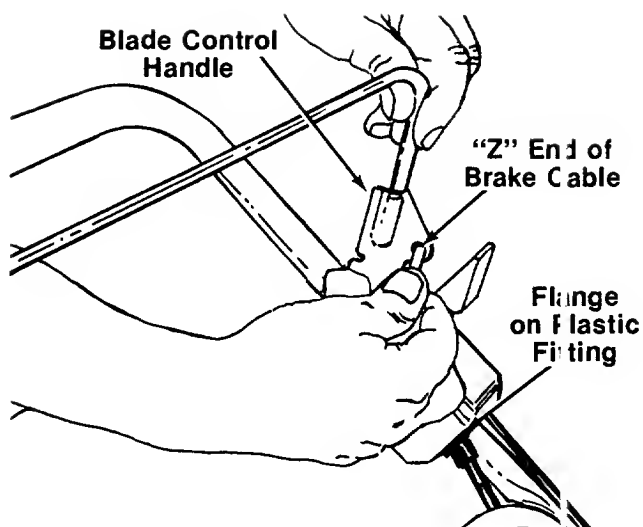

FIGURE 7.
10. Hook the "Z" end of the brake cable into the hole in the blade control handle. See figure 7. If additional slack is needed in order to hook the cable into the handle, proceed as follows.